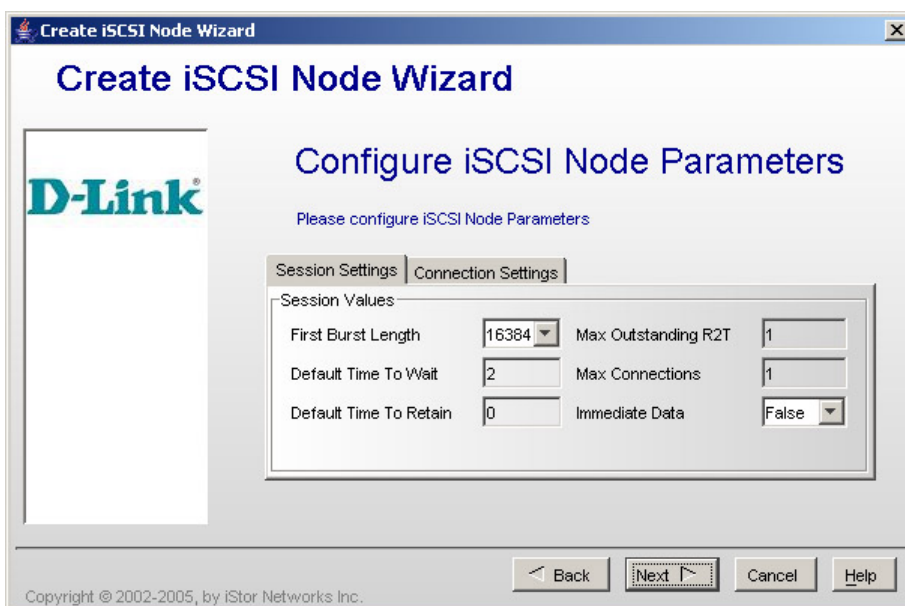

Figure 5-31 Create iSCSI Node Wizard - Configure iSCSI Node Parameters Screen
4. Click **Next**. The **Configure iSCSI Node Parameters** screen appears (see Figure 5-31).